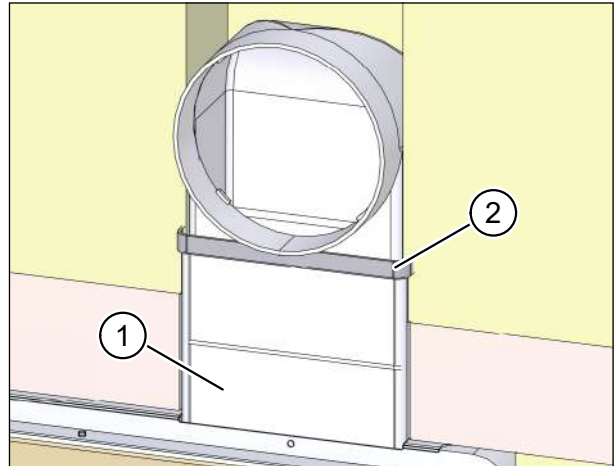

Fig. 56: Fixing ductwork connections with sealing tape
- ▶ Insert a fitting, e.g. the flat ductwork connector M-WRG-FK-V, part no. 5591 (item 1 in Fig. 56), into the opening in the wall box.
- ▶ Insert the first section of the flat ductwork into the fitting, e.g. the flat ductwork connector M-WRG-FK-V, part no. 5591, on the wall box and seal the joint with sealing tape (item 2 in Fig. 56).